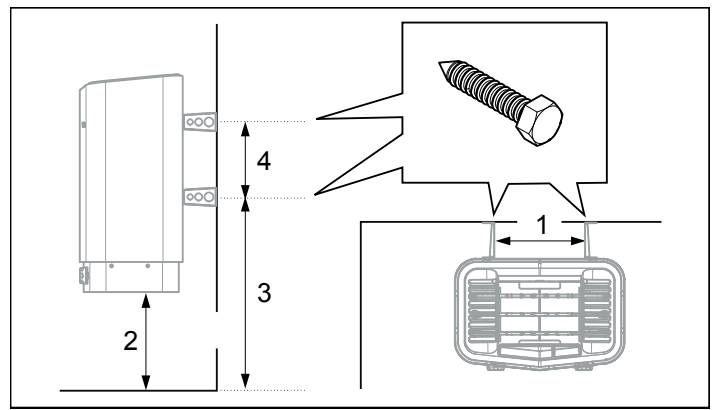

Figure 11: Dimensioning
9. Position the bracket screws according to the specified dimensioning see Fig. 11.